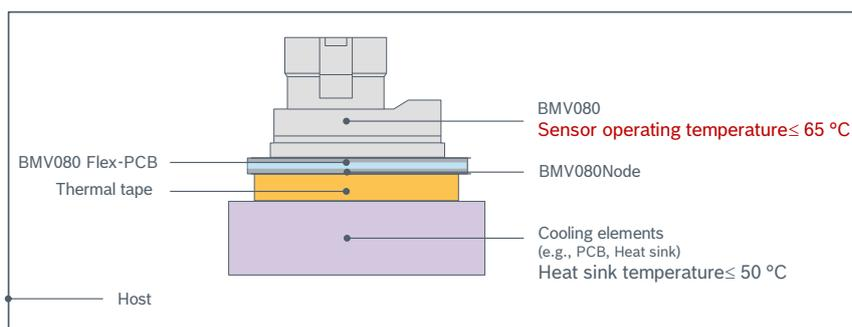

Figure 20: Typical thermal integration setup
- Figure 20 shows a typical thermal integration setup where the *lower surface of the BMV080 flex PCB* (referred to as the BMV080Node) is attached to a cooling element (e.g., a heat sink) via a thermal contact (in this case, a thermal tape) and the heat sink itself is attached to the host